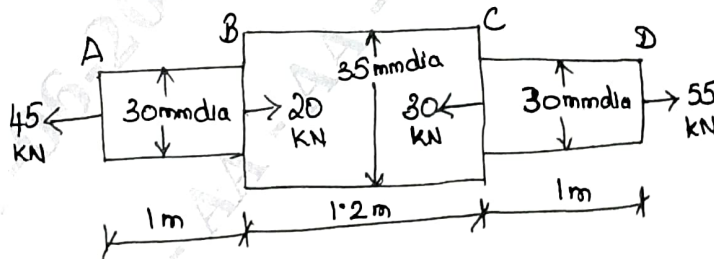

Fig Q2(b) (07 Marks)
- b. A steel bar of variable section is subjected to forces as shown in Fig Q2(b). Taking $E = 205 \text{ kN/m}^2$, determine the total elongation of the bar.